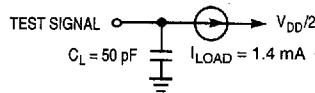
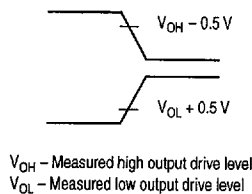

Figure 6-6. Signal Loading for Driven-to-Three-State Time Measurements
Figure 6-7. Test Point Levels for Driven-to-Three-State Time Measurements
- The data hold parameter, t_{DHW} , is measured to the disable levels shown in Figure 6-7, Test Point Levels for Driven to Three-State Time Measurements, rather than to the traditional data invalid levels.
- Refer to Figure 6-6, Signal Loading for Driven to Three-State Time Measurements, and Figure 6-7, Test Point Levels for Driven to Three-State Time Measurements, for detailed measurement information.